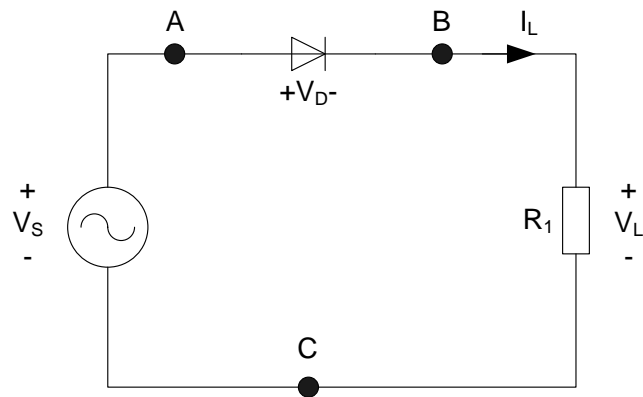

Figure 1: Half wave rectifier circuit
- Build and connect up the half-wave rectifier circuit as shown in Figure 1, where  $R_1 = 10\text{k}\Omega$ . Switch on the scope, and prior to making any connections, use the AUTO SET button to initialize both channels.
- **Questions:** Based on your observations from this Section (3.1), explain why the circuit you constructed performs *half wave* rectification? Explain what would happen if you placed a capacitor in parallel with the resistor R1 in Figure 1. What does the waveform look like now? Draw it in your lab handbook.
- Because the earth of both the oscilloscope and Function Generator are not isolated, scope measurements for the circuits of Figures 1 and 2 are not possible using the known conventional techniques. Thus, the scope has to be set up to function in differential mode. A consequence of this set up is that you will only be able to use the scope to measure one waveform, which in this case will be the output of the circuits. Therefore, make sure you have set up your input waveform correctly before making the following adjustments to the way the scope operates.